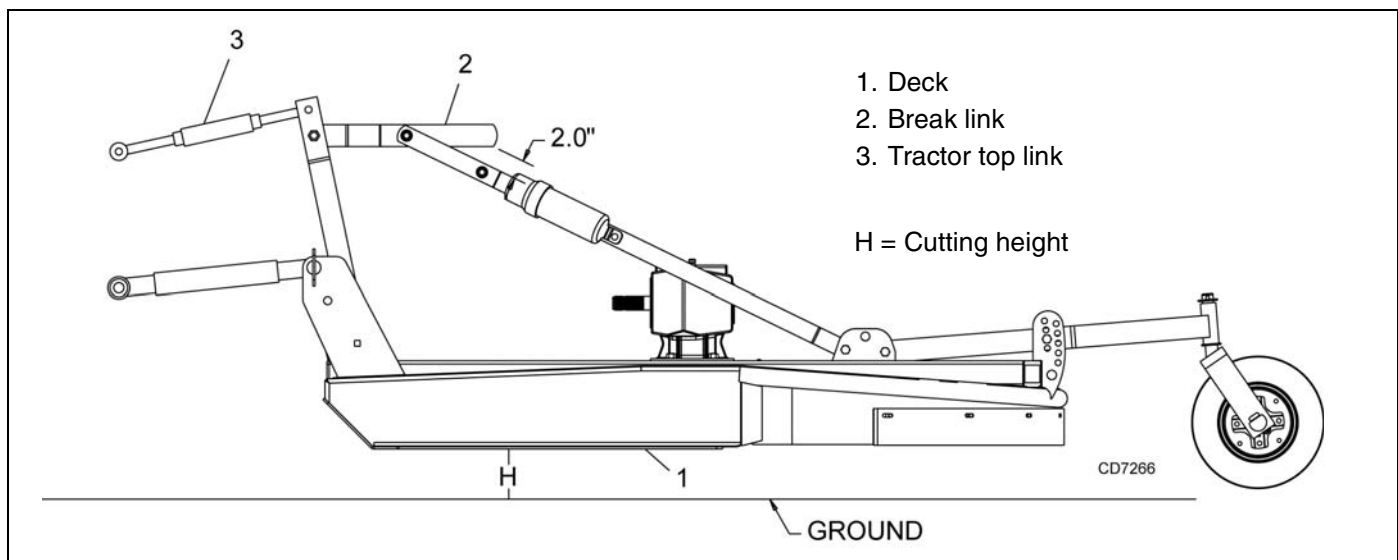

Figure 10. Cutting Height Adjustment
- Adjust top link (BB60X, BB72X, BB84X) to provide 2" of clearance between break link (2) and rear lift links. See Figure 10. The clearance will allow cutter to float over uneven terrain.